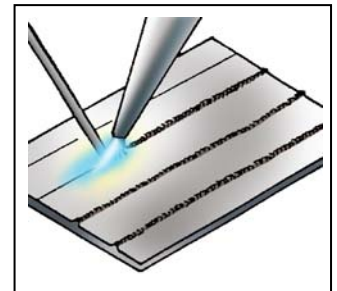

Figure 8
26. Carry the bead forward by moving the torch and adding filler with a smooth, uniform motion. Refer to Figure 8.